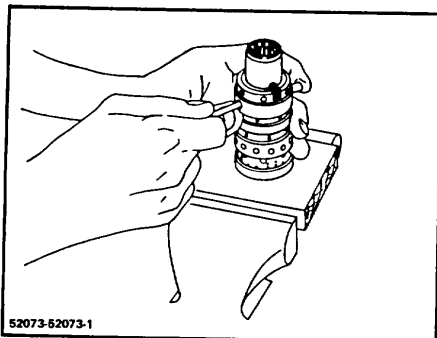

Figure 3-3. Loosening Spool Assembly
8. Remove the needle bearing (7) and the races (6) from the control spool.
9. Hold the spool-sleeve assembly and push the centering pin (18) from the assembly (Fig 3-3).